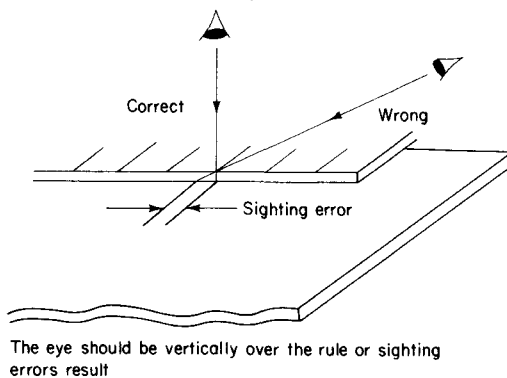

Fig. 4.3 How errors are introduced when reading a rule
**Tools used in measuring.** Some of the tools used in measuring are shown in Fig. 4.2. The *rule* is the craftsman's basic measuring tool. Measurements on a rule are made between two lines and, so far as the craftsman is concerned, the rule is the basic *line standard*. With a good rule measurements can be made to an accuracy of 0.2 mm but it depends very much on the skill of the user (Fig. 4.3).